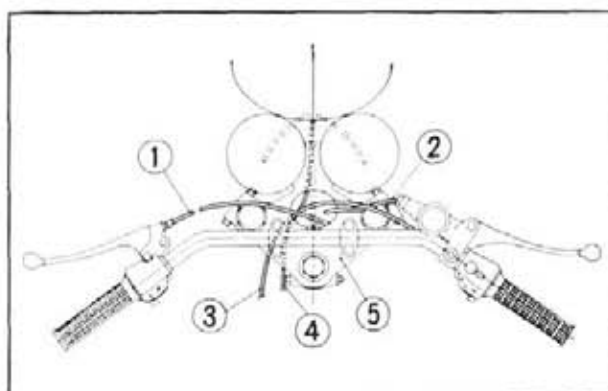

Fig. 11-9
9. Connect the clutch cable to the clutch lever and mount the master cylinder bracket on the handle bar. The cables, wire harness and brake hose should be routed as shown in Fig. 11-9.